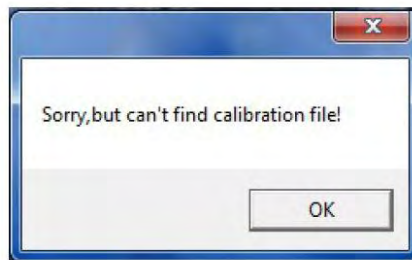

Figure 6 Needs to copy Calibration file
*If clicking on the TSA ICON for Desktop, the “Sorry but can’t find calibration file!” warning appears, **Figure 6**. It means the **amp_ofst.dat** and **freq_ofst .dat file** from CD is missing in the data folder.